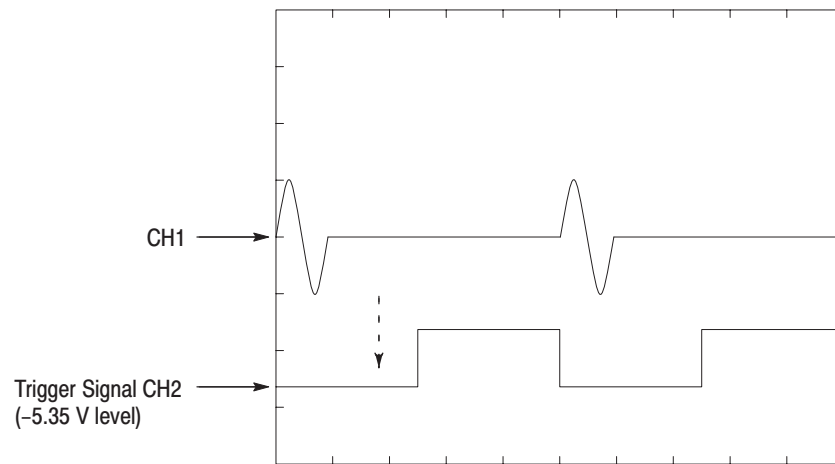

Figure 4–28: Trigger Signal (-5 V check2)
- e. Verify that a sine wave is displayed on the oscilloscope (see Figure 4–28).